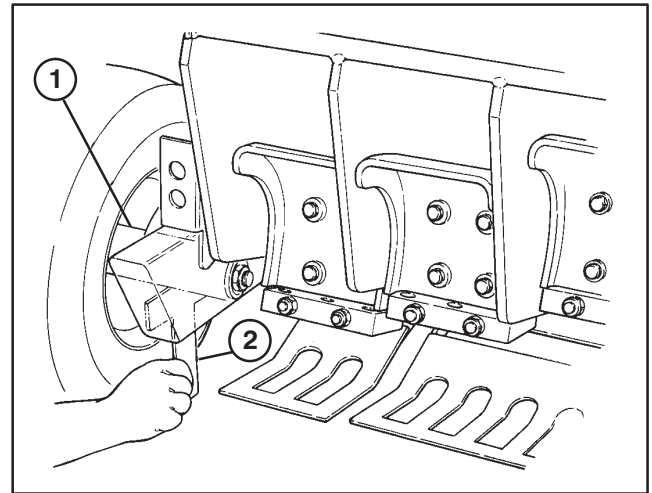

Figure 16
5. Repeat procedure using long end of height gauge on each rear wheel spindle (Fig. 16).